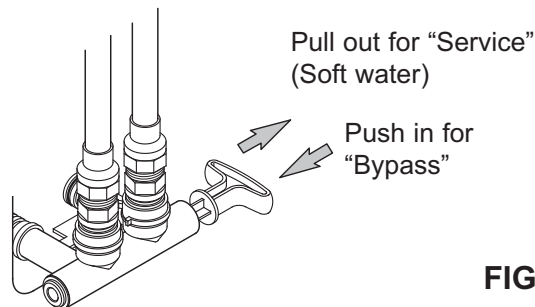
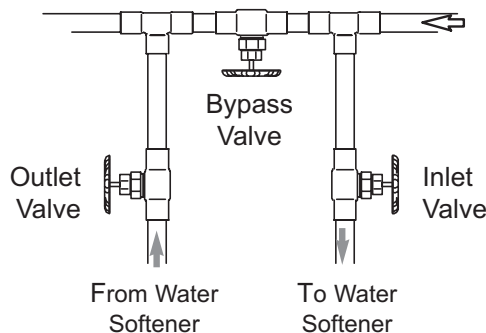

FIG. 7
FIG. 8
Always install either a single bypass valve (provided), as shown in Figure 7, or, if desired, parts for a 3 valve bypass system (not included) can be purchased and assembled, as shown in Figure 8. Bypass valves allow you to turn off water to the softener for maintenance if needed, but still have water in house pipes. Pipe fittings must be 3/4" minimum.
**CAUTION:** The house cold water pipe (metal only) is often used as a ground for the house electrical system. The 3-valve bypass type of installation, shown in Figure 8, will maintain ground continuity. If you use a plastic bypass valve at the unit, continuity is broken. To restore the ground, do the following: